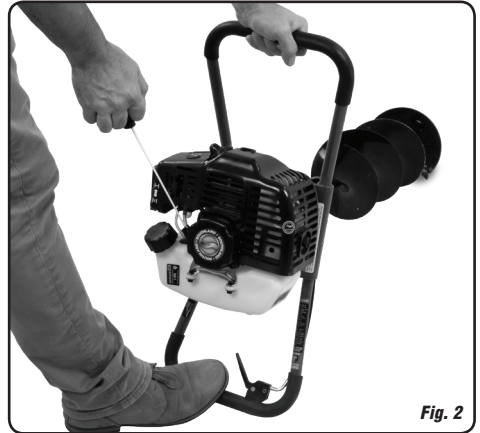

Fig. 2
1. Place the right handle bar flat on the ground with the throttle in the upward position. Place left hand on left handle bar (see Figure 2).